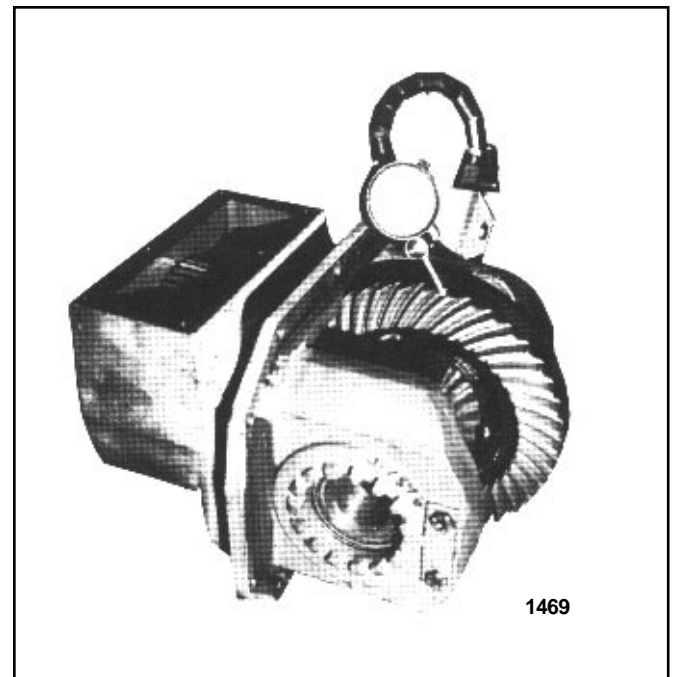

FIGURE 10. MEASURE THE GEAR CLEARANCE
H. Adjust the dial indicator to measure the gear clearance. See Figure 10. Prevent the pinion from turning and slowly move the ring gear backward and forward. The indication of gear clearance must be the value indicated on the ring gear. If the clearance must be adjusted, move the adjustment nuts equally to that the preload of the bearings is not changed.